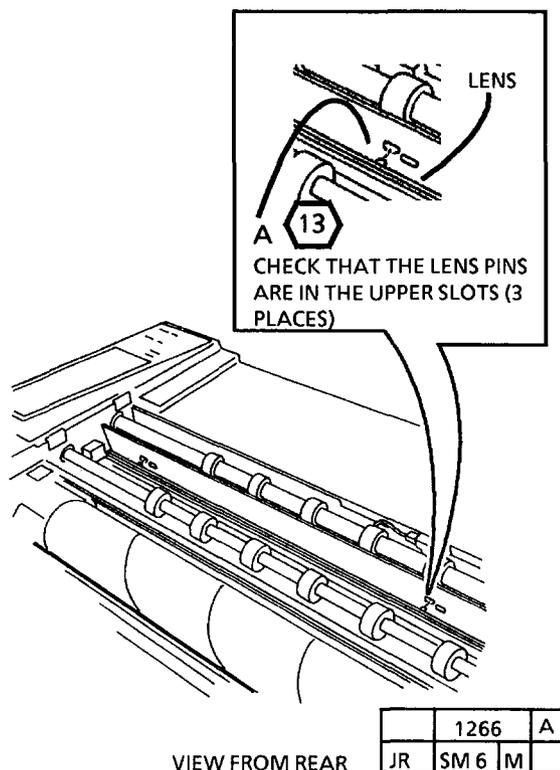

Figure 22. Check for Correct Lens Position
40. (FIGURE 22): CHECK FOR CORRECT LENS POSITION.